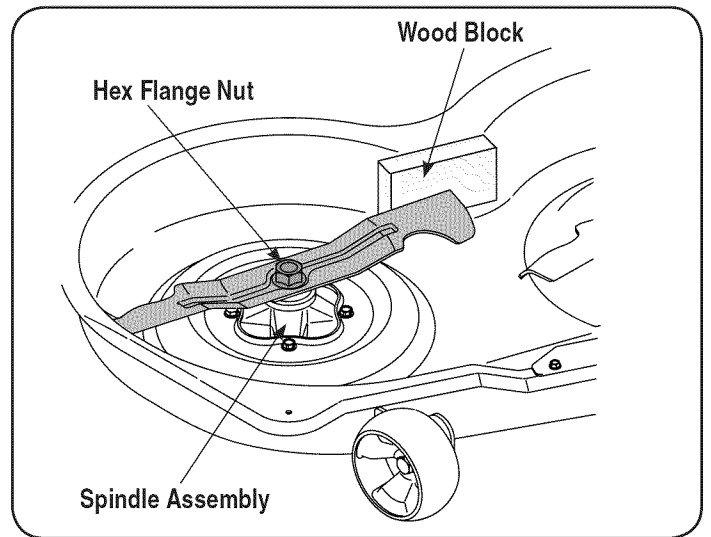

Figure 17
2. Place a block of wood between the center deck housing baffle and the cutting blade to act as a stabilizer. See Fig. 17.
3. Use a 15/16" wrench to remove the hex flange nut that secures the blades to the blade spindle assemblies. See Fig. 17.